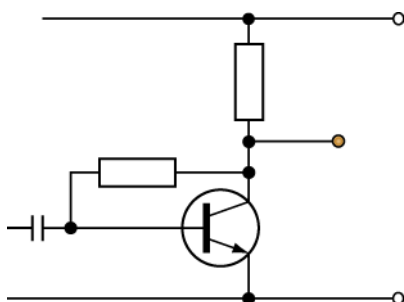

Fig. E5-7
7. The purpose of the input capacitor shown in Fig. E5-7 is to: